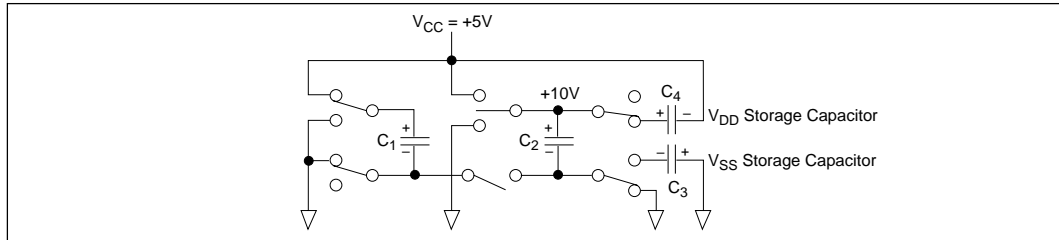

Figure 16. Charge Pump — Phase 1 -  $V_{DD}$  Charge Transfer
**$V_{DD}$  Transfer-Phase 4 (Figure 16)**